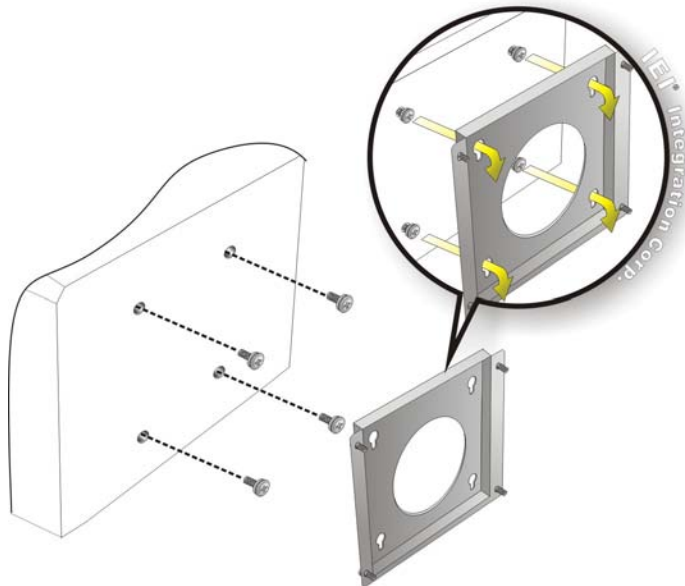

Figure 3-12: Mount the Embedded System
Step 6: Insert the four monitor mounting screws provided in the wall mounting kit into the four screw holes on the bottom panel of the system and tighten until the screw shank is secured against the bottom panel (**Figure 3-12**).
- Step 8:** Carefully insert the screws through the holes and gently pull the monitor downwards until the TANK-610-BW rests securely in the slotted holes (**Figure 3-12**). Ensure that all four of the mounting screws fit snugly into their respective slotted holes.